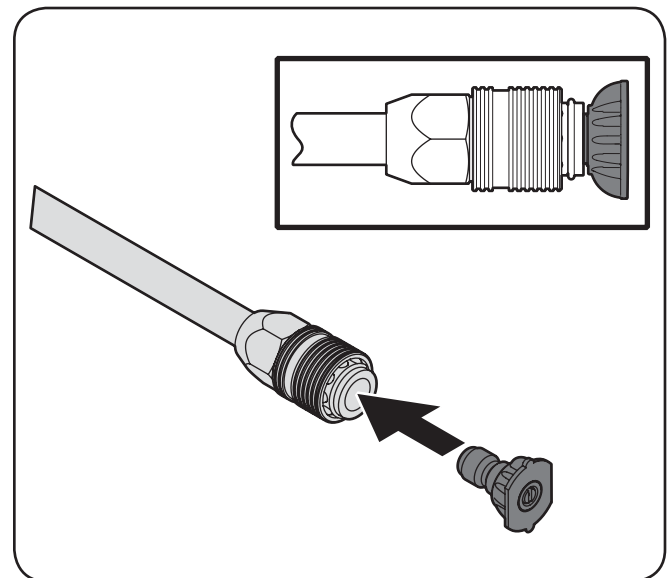

Figure 3-7
- Install the desired spray nozzle into the end of the spray handle assembly as shown in Figure 3-7. Simply align the tip into the end of the spray handle and push. It will click into place. See Figure 3-7.